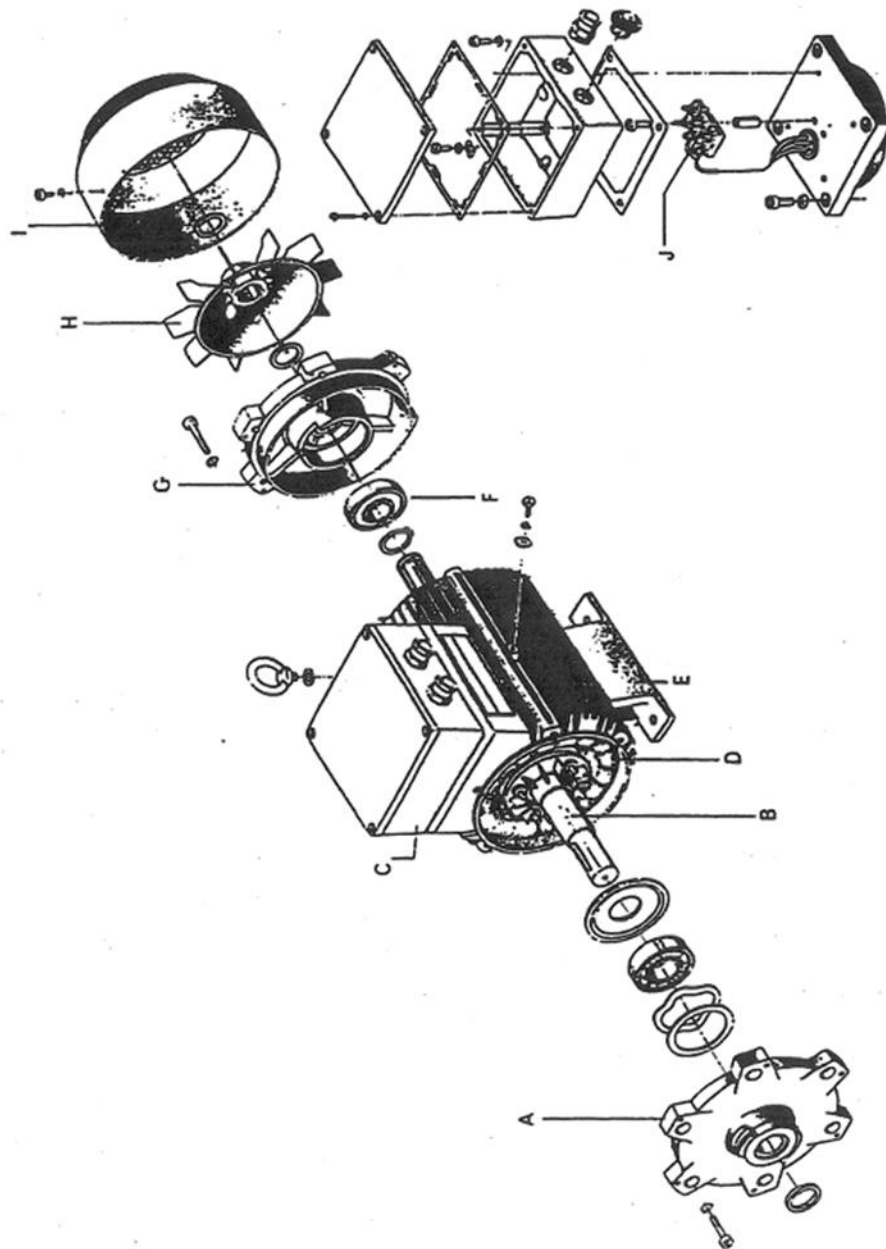

Figure 1 - Exploded view of a SIEMENS three phase TEFC SCI motor.
2. An exploded view of a SIEMENS three phase TEFC squirrel cage induction (SCI) motor is shown in Figure 1. Parts A to J are labelled on the diagram.
Examine the exploded view in Figure 1. Label the following parts on the diagram if they are shown: